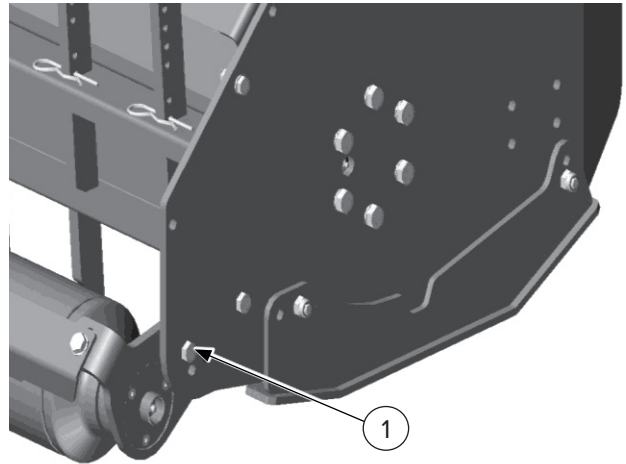

Figure 4
2. Remove the bolts [Figure 4, Item 1] that secure the leveler supports to the frame on both sides.